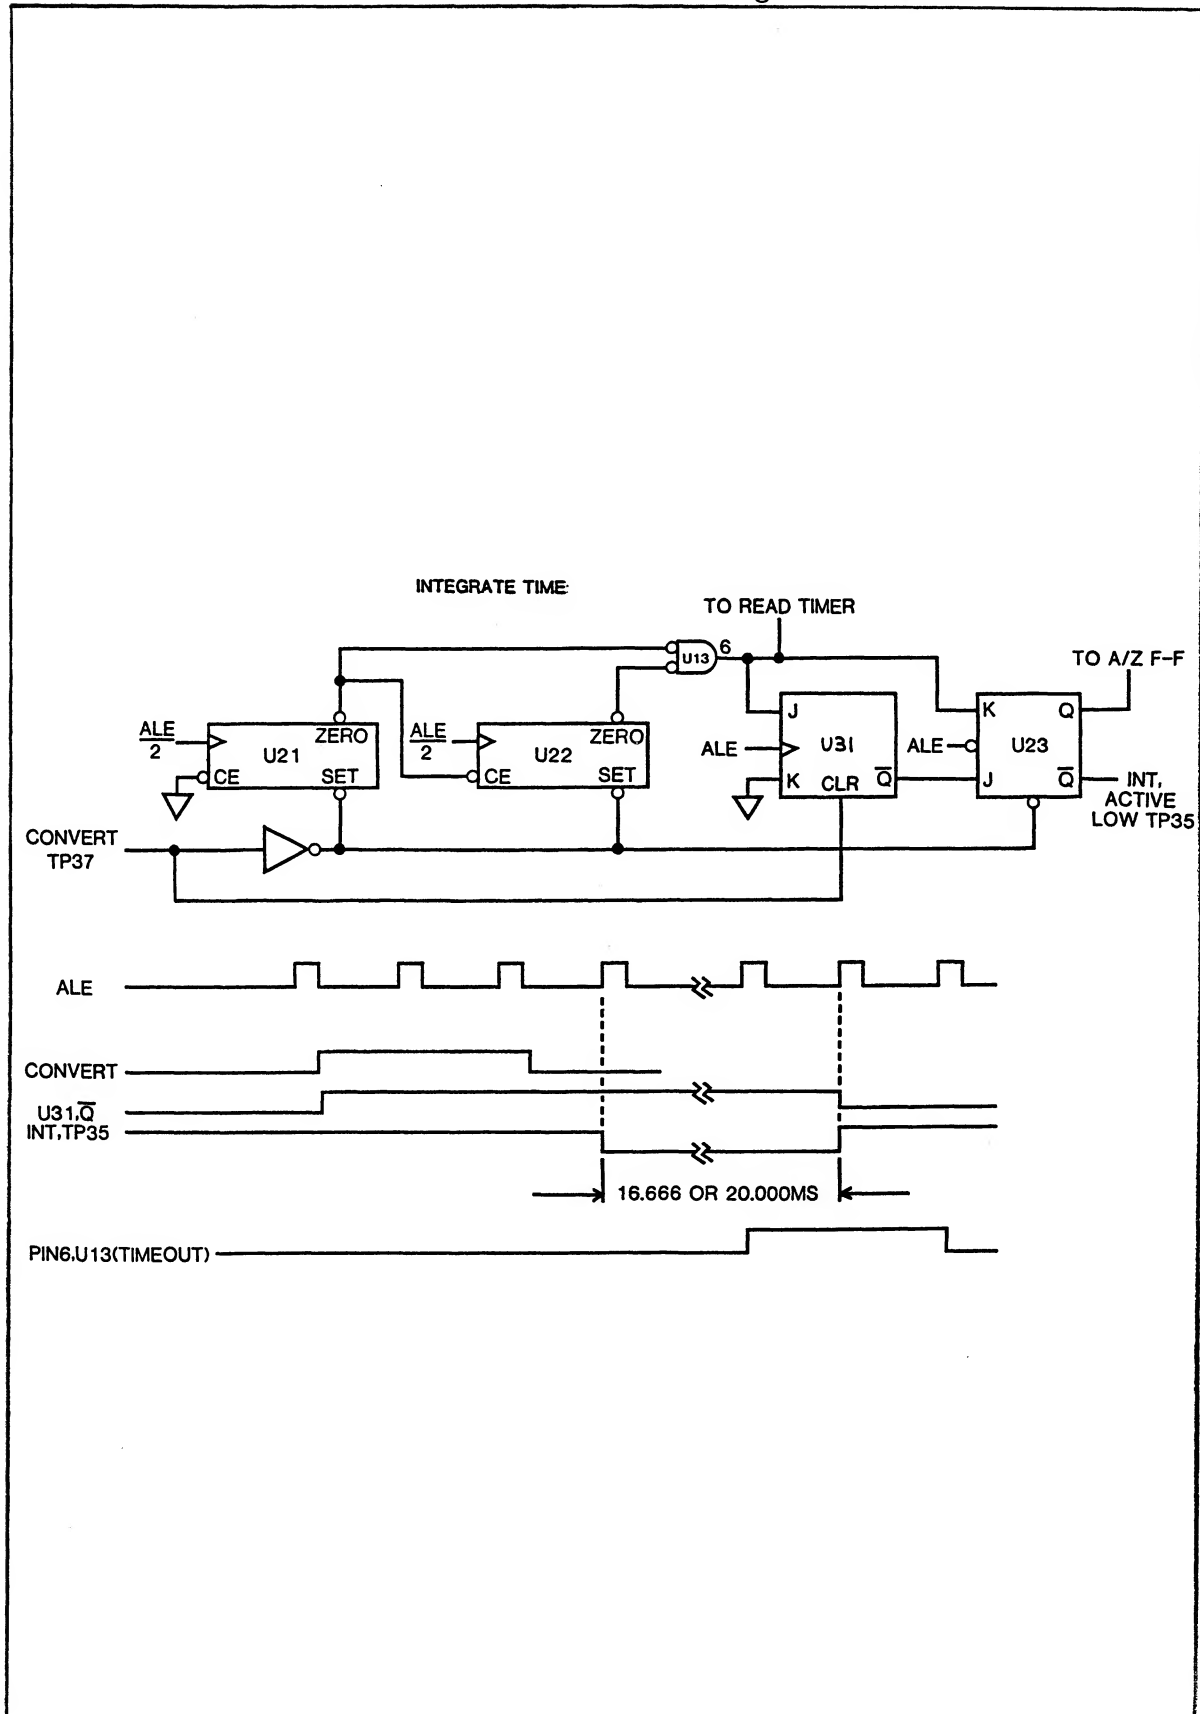

Figure 161-4. Integrate Timer Simplified Schematic and Timing Diagram
Refer to Figure 161-4 for a simplified schematic and timing diagram of the integrate timer. In response to a convert command from the A/D controller, J-K flip flops U31 and U23 are reset and counters U21 and U22 are loaded. The next ALE pulse sets U23, asserting the INTG(L) signal. Subsequent ALE pulses decrement the counters until both reach zero causing U13 to output a timeout signal. The next ALE pulse toggles U23 to terminate the INTG(L) signal and sets U31 to prevent spurious integrate commands.